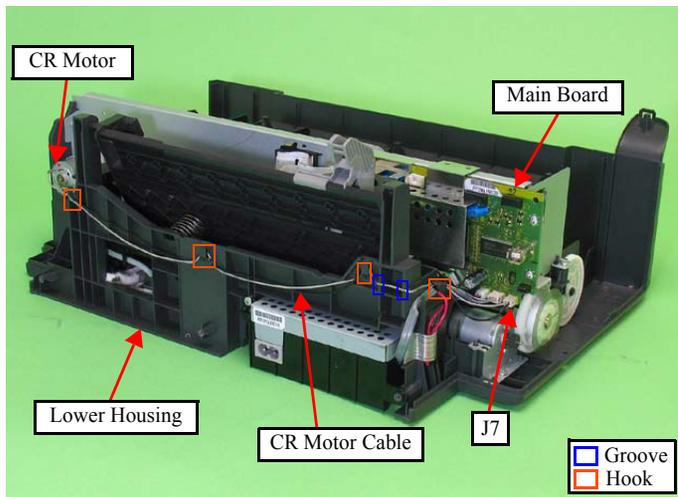

Figure 4-46. Removing the CR Motor (1)
- Route the CR Motor cable through the four hooks and the two grooves of the Lower Housing with some slack to prevent breaking the soldered portions. (See Fig.4-46.)